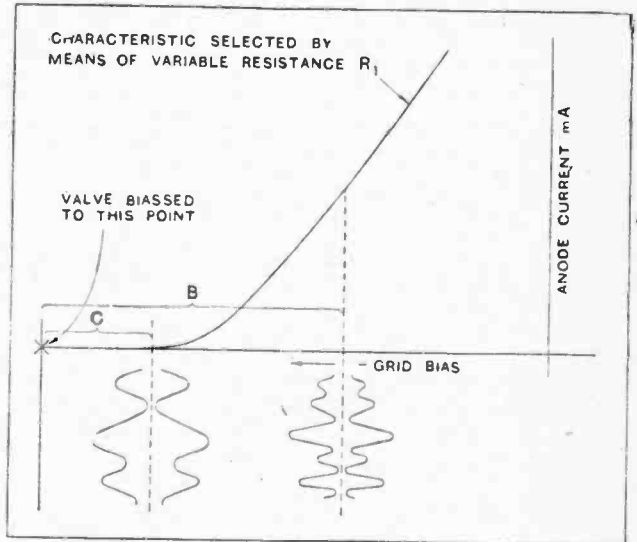
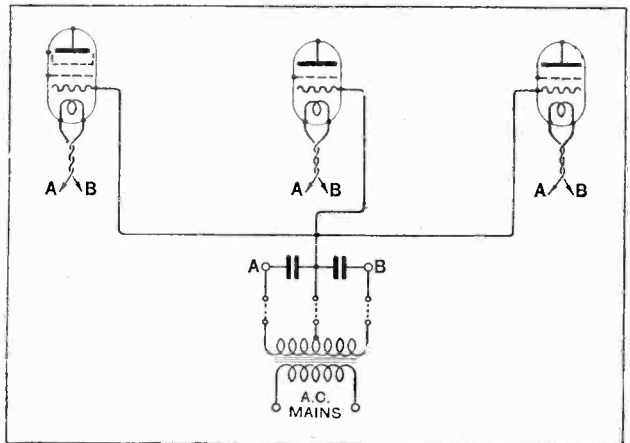

Fig. 3.—The weaker interfering signal C is removed by increasing the value of grid bias or alternatively decreasing the anode circuit.
Fig. 2.—The cathode potentiometer (R. in the original diagram) may be omitted if a centre-tapped low-tension transformer is used.
from Berlin is B, and is made sufficient to reach a reasonably straight part of the characteristic to be rectified. To do this requires a not very selective set, with two good H.F. stages and fairly strong transmissions to work on, and a fine control of detector volts. Then if the fringe of an unwanted station gives a strength C (Fig. 2), whilst the wanted one gives a strength B
Fig. 2.—Comparative strengths of 5XX(A) and Berlin(B) at point of maximum tuning. The strength of 5XX when the circuit is tuned to Berlin is represented by C. This interference must be rejected by the detector.
signals below a certain strength. This means that on tuning in to Berlin, say, on this none-too-selective receiver, the signal strength (in tune with Berlin) is B, and the strength of Daventry at this tune point is C (Fig. 2). A suitable bias and characteristic to enable the desired cut-off to be obtained is revealed in Fig. 3.
Instead of picking up an artificial centre point on the heater transformer secondary by connecting the cathodes to a potentiometer slider it is quite permissible to use a centre-tapped winding in the manner shown in Fig. 2. The bridging condensers of 0.005 mfd. (C_{11} and C_{12}) used with the original arrangement must be retained, and should be mounted in the set itself rather than in the eliminator, in order to avoid long leads; this will necessitate a three-wire cable between receiver and external transformer.
Fig. 3.—A simple eliminator suitable for the Record III. The value of the voltage-absorbing resistance R will depend on the rectified output and the H.T. current consumption of the receiver.
A suggestion for a suitable H.T. eliminator is given in Fig. 3. Here it is assumed that the power transformer will include a low-tension winding for feeding the heaters, as this is the most economical procedure except where an existing high-tension eliminator can be used.